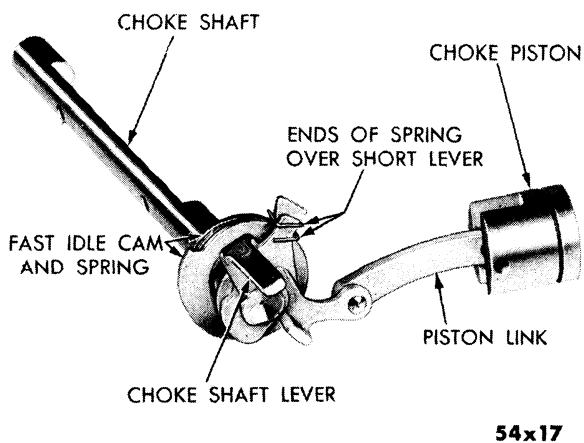

Fig. 10—Choke Shaft, Piston, Sleeve and Spring
- (8) Disengage the fast idle cam and spring from the choke shaft by lifting the ends of the spring over the short lever, as shown in Figure 10; then, slide off the choke shaft.
- (9) The carburetor now has been disassembled into three units, the air horn, main body and throttle body, and the component parts of each disassembled as far as necessary for cleaning and inspection.